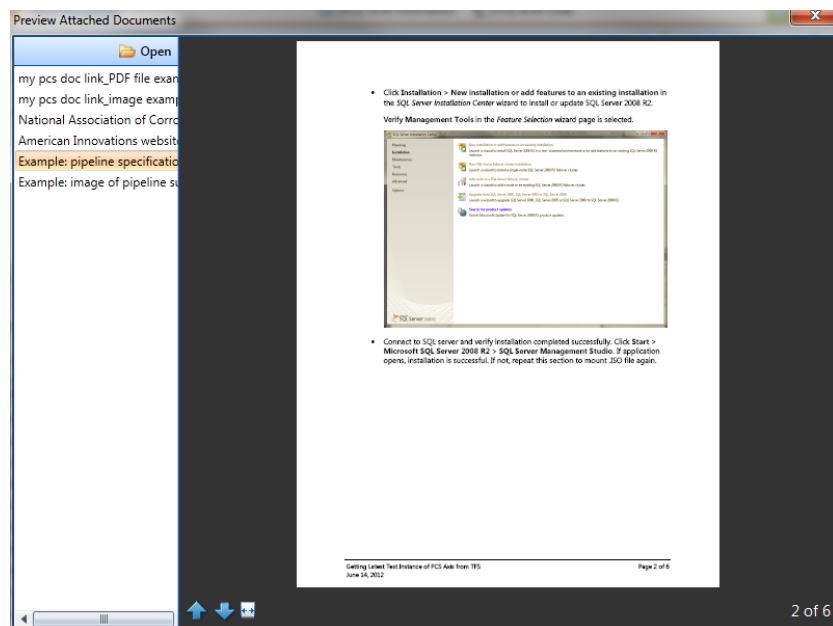

Figure 3-18. Preview Attached Documents
- 6 Select a file in the list on the left side of the window to view the file in the *Preview Attached Documents* window (Figure 3-18).